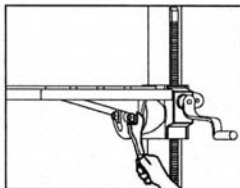

fig.6
4. Install table and clamp with bolt. Fig. 6.